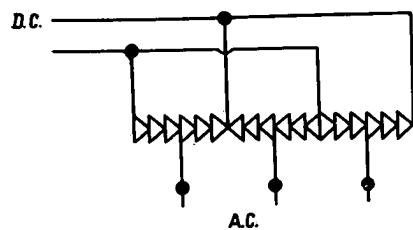

Fig.2. Connection Diagram of Selenium Rectifier
6. Wrong connection of selenium piles to each other or to transformer (after repair). 6. Check rectifier connections according to diagram (Figs 2 - 3) and check voltage on rectifier side by supplying voltage to transformer.